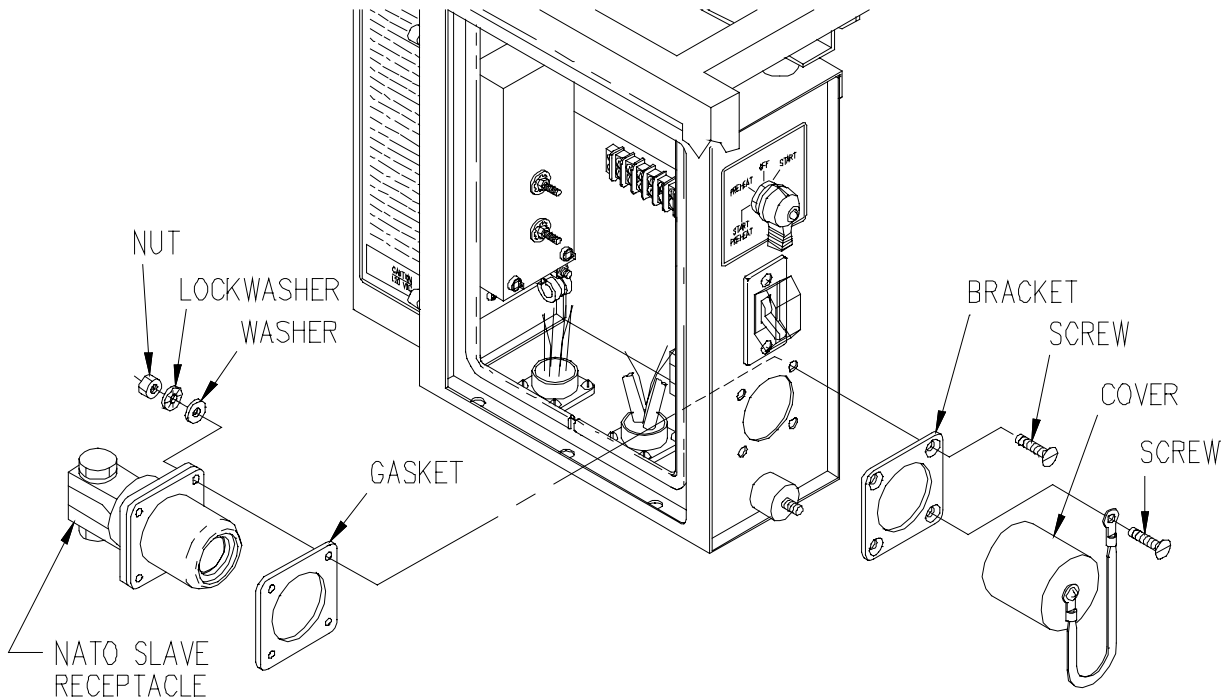

Figure 4-36. NATO Slave Receptacle
- (1) Shut down generator set.
- (2) Release instrument panel by turning fastener, open instrument panel slowly.
- (3) Tag and disconnect electrical leads from NATO slave receptacle (Figure 4-36).
- (4) Remove nuts, lockwashers, washers, screws, cover, bracket, and NATO slave receptacle with gasket from control panel.
- (1) Insert NATO slave receptacle (Figure 4-36) with gasket into control panel.
- (2) Position bracket and cover on NATO slave receptacle.
- (3) Secure NATO slave receptacle, bracket, and cover to control panel with screws, washers, lockwashers, and nuts.
- (4) Connect electrical leads to NATO slave receptacle and remove tags.
- (5) Close and secure instrument panel.